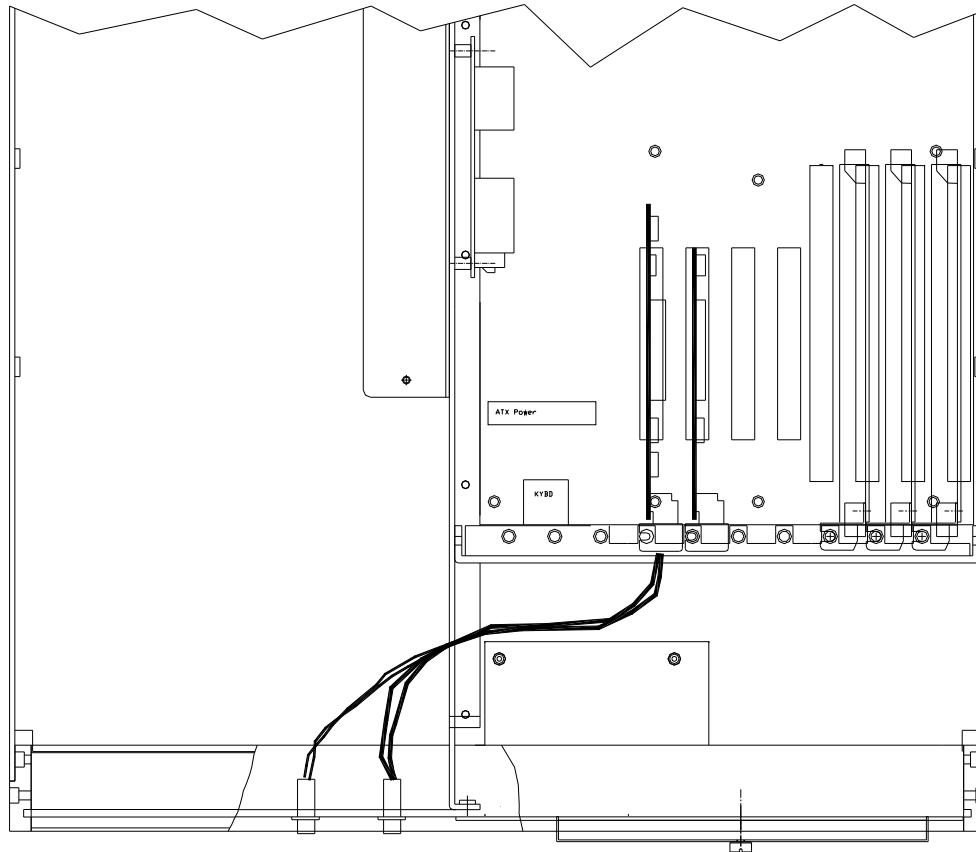

Figure 5-1 SCRAMNet+ Card Inserted into Acutrol3000 Chassis
- **SC150 Card.** This card is installed into the leftmost PCI slot in the Acutrol3000 backplane and secured with a mounting screw. See Figure 5-1.